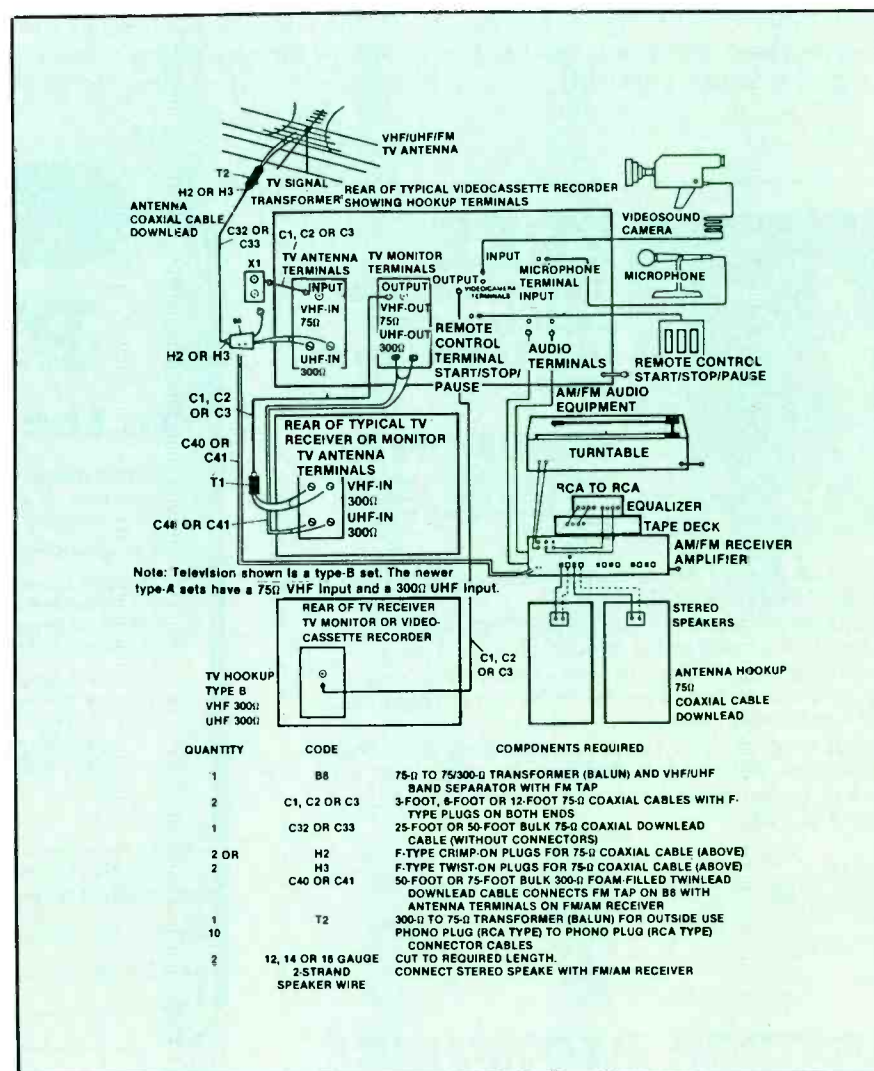

Figure 3. Wiring arrangement for a video/audio system. (Courtesy GC Electronics.)
7. See Figure 3.
Three types of cables are needed for making the connections for the system in Figure 3. These include 300 $\Omega$  line and 75 $\Omega$  coaxial cable for the video side and audio cable for the audio side. Of the three, only 300 $\Omega$  twinlead does not require special plugs. Even so, most 300 $\Omega$  line connections are made by wrapping the stripped ends around machine screws or by inserting the squared-off end of twinlead into biting screws that cut through the plastic, making contact with the conductors.
The drawing in Figure 3 can be misleading if you think of each of the connecting lines as representing a single conductor. Each of those lines is a cable and a cable always has a minimum of two leads, even if one of those is the wire braid.
The system shown earlier in Figure 3 includes a video camera using an in-home VCR. For outdoor shooting with a camera that is not a camcorder but uses a portable VCR, remember that cameras usually have a boom-mounted mic, but also have a jack for connecting an external mic. In the field, the VCR is battery operated; in the home it is connected to the ac line via an ac adapter. In the home, the portable VCR becomes the equivalent of a permanently mounted VCR. And like component system VCRs, this combination is connected to an antenna and should follow the antenna connections described in earlier articles. (See *ES&T*, May 1985.)